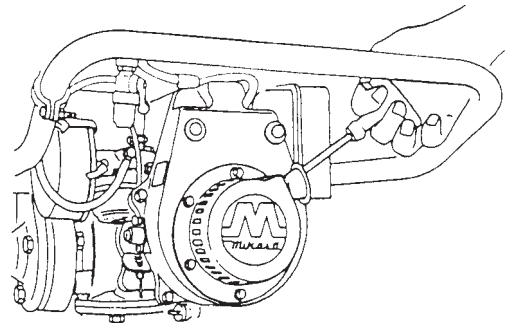

Figure 7. Recoil Starter
5. Grip the recoil starter (Figure 7) handle and pull it until you feel a slight resistance. Then pull sharply and quickly. Return the recoil starter handle to the starter position before releasing.